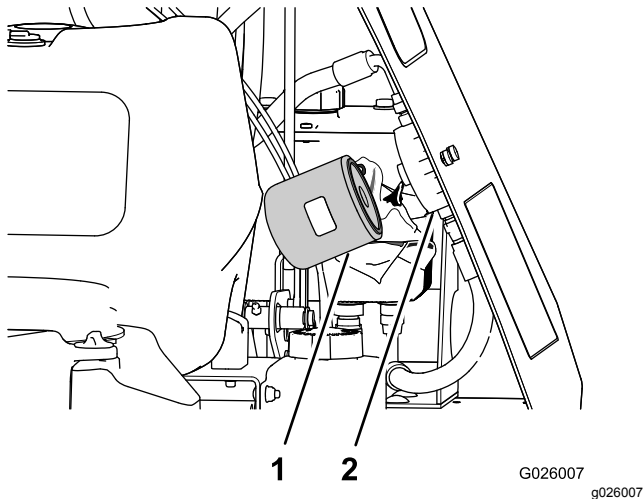

Figure 57
5. Rotate the auxiliary hydraulic filter counterclockwise and remove it from the base of the filter adapter (Figure 57). Allow the fluid to drain.
7. Install the filter by rotating it clockwise onto the filter adapter until the seal contacts the filter adapter, then tighten the filter an additional 2/3 to 3/4 turn (Figure 57).